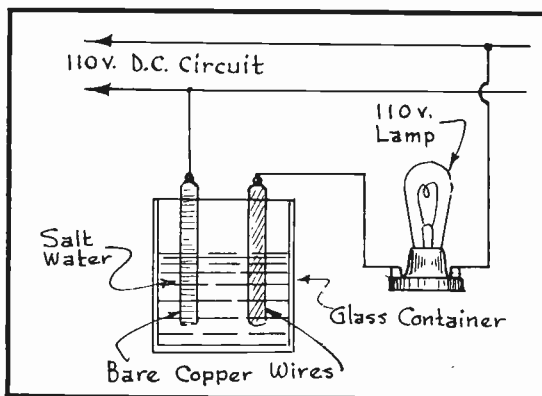

Fig. 4
4. - WHENEVER TESTING CIRCUITS, WHICH HANDLE VOLTAGE OF 110 VOLTS AND UP, A LAMP SHOULD BE CONNECTED IN SERIES WITH THE CIRCUIT BEING TESTED AND THE ELECTROLYTIC POLARITY INDICATOR AS SHOWN IN FIG. 4. THE LAMP WILL THUS ACT AS A RESISTANCE AND THEREBY PREVENT SHORT CIRCUITS AND DISASTROUS ACCIDENTS. FOR A 110 VOLT CIRCUIT, A 110 VOLT LAMP SHOULD BE USED AND FOR A 220 VOLT CIRCUIT, A 220 VOLT LAMP. THE LAMP IN EITHER CASE MAY BE RATED AT ABOUT 40 WATTS.